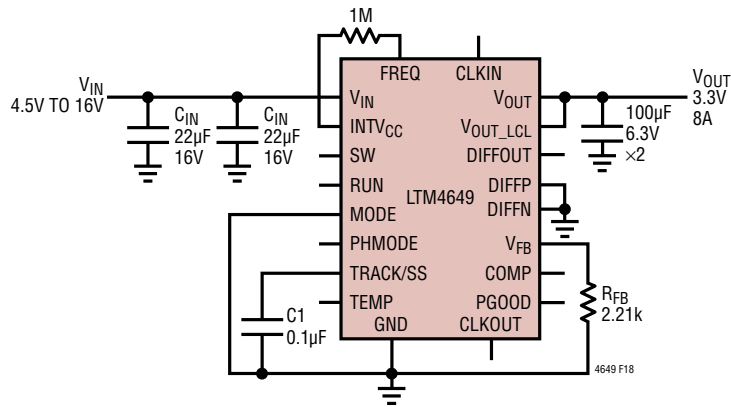

Figure 18. 4.5V to 16V  $V_{IN}$ , 3.3VOUT at 8A Design with Increased 650kHz Frequency
**Table 3. Output Voltage Response vs Component Matrix (Refer to Figure 18) 0A to 5A Load Step Typical Measured Values**